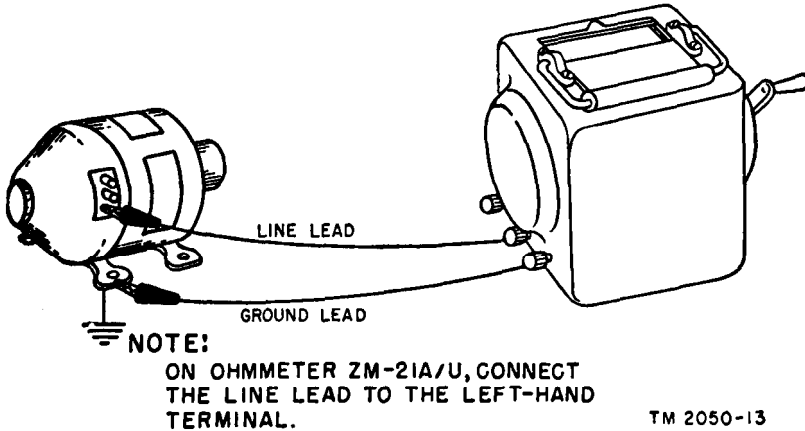

Figure 8. Connections for testing a. c. or d. c. rotating machines.
a. Connect a test lead from the LINE terminal of the ohmmeter to a lead, an exposed conductor, or the commutator of the machine (fig. 8).